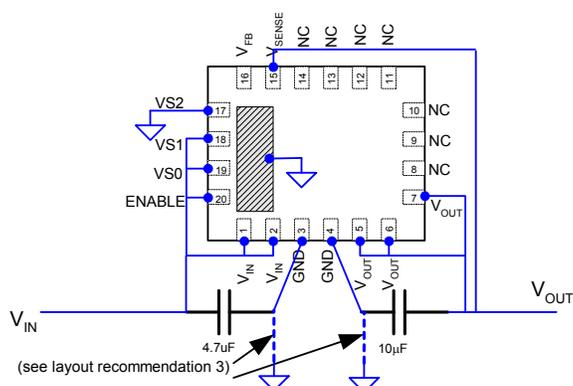
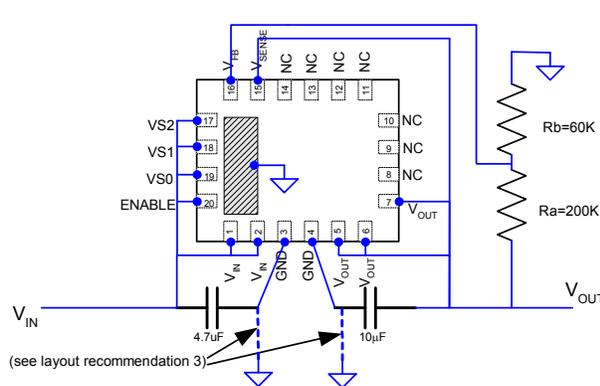

Figure 6. Example application, Vout=1.5V.
Figure 7. Example Application, external divider, Vout = 2.6V.
**Recommendation 3:** Multiple small vias (0.25mm after copper plating) should be used to connect ground terminals of the Input capacitor and the output capacitor to the system ground plane. This provides a low inductance path for the high-frequency AC currents; thereby reducing ripple and suppressing EMI (see Fig. 6, Fig. 7, and Fig. 8).
Figure 6 shows an example schematic for the EN5311QI using the internal voltage select. In this example, the device is set to a VOUT of 1.5V (VS2=0, VS1=1, VS0=1).
Figure 7 shows an example schematic using an external voltage divider. VS0=VS1=VS2= “1”. The resistor values are chosen to give an output voltage of 2.6V.